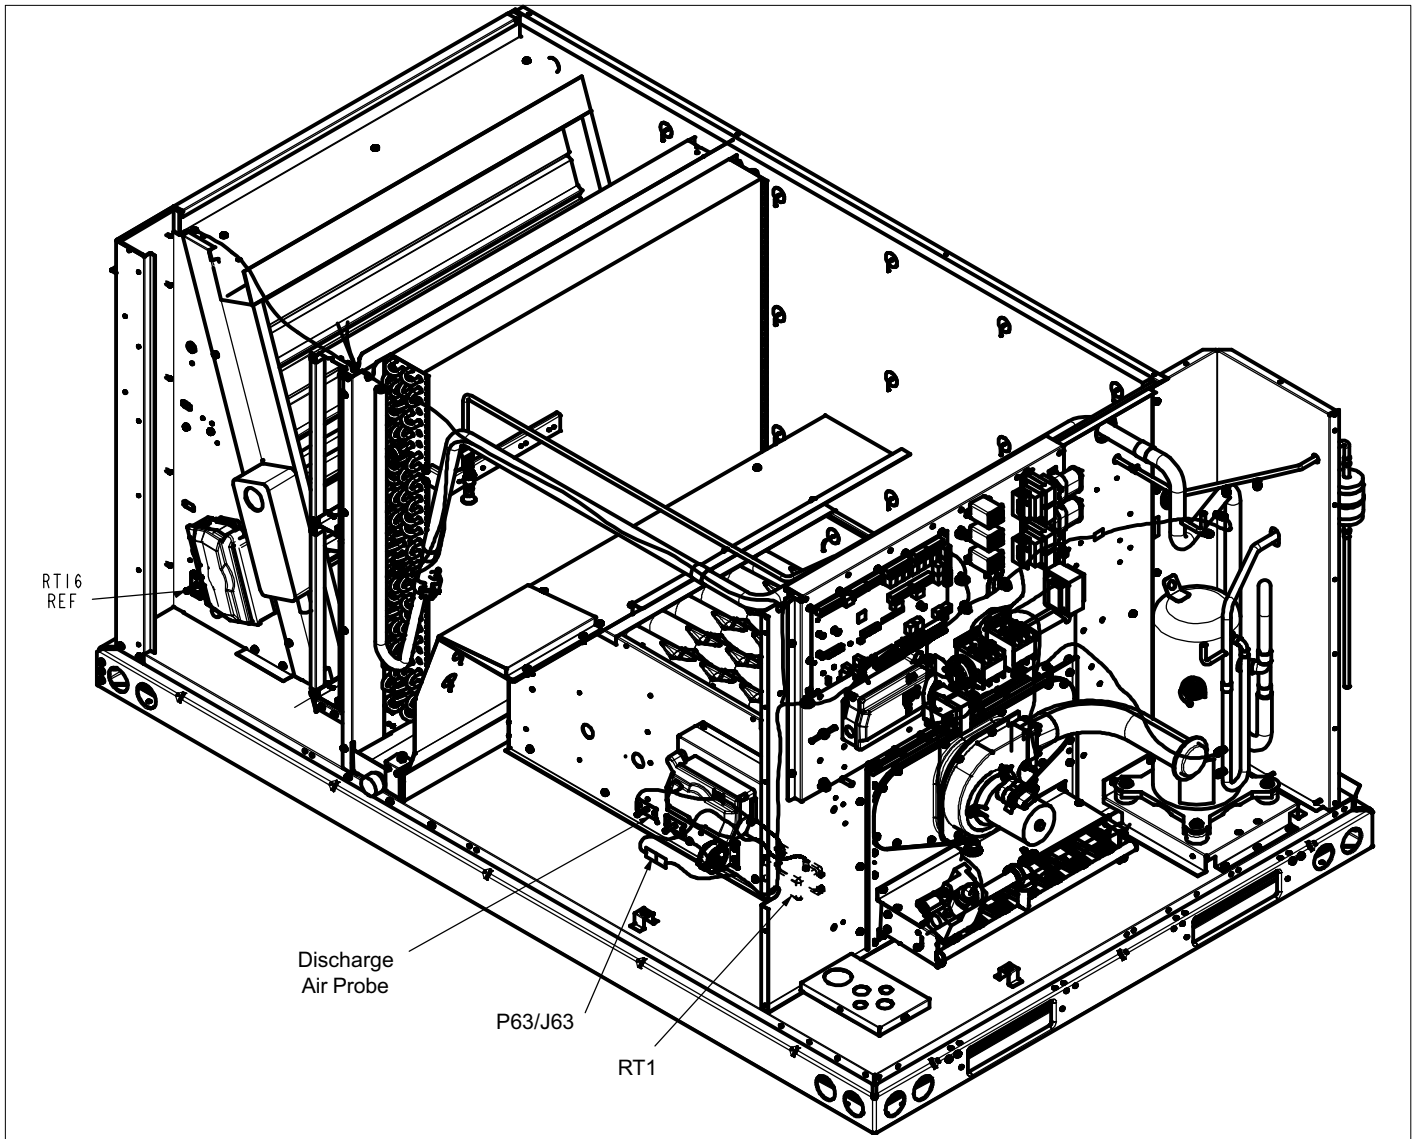
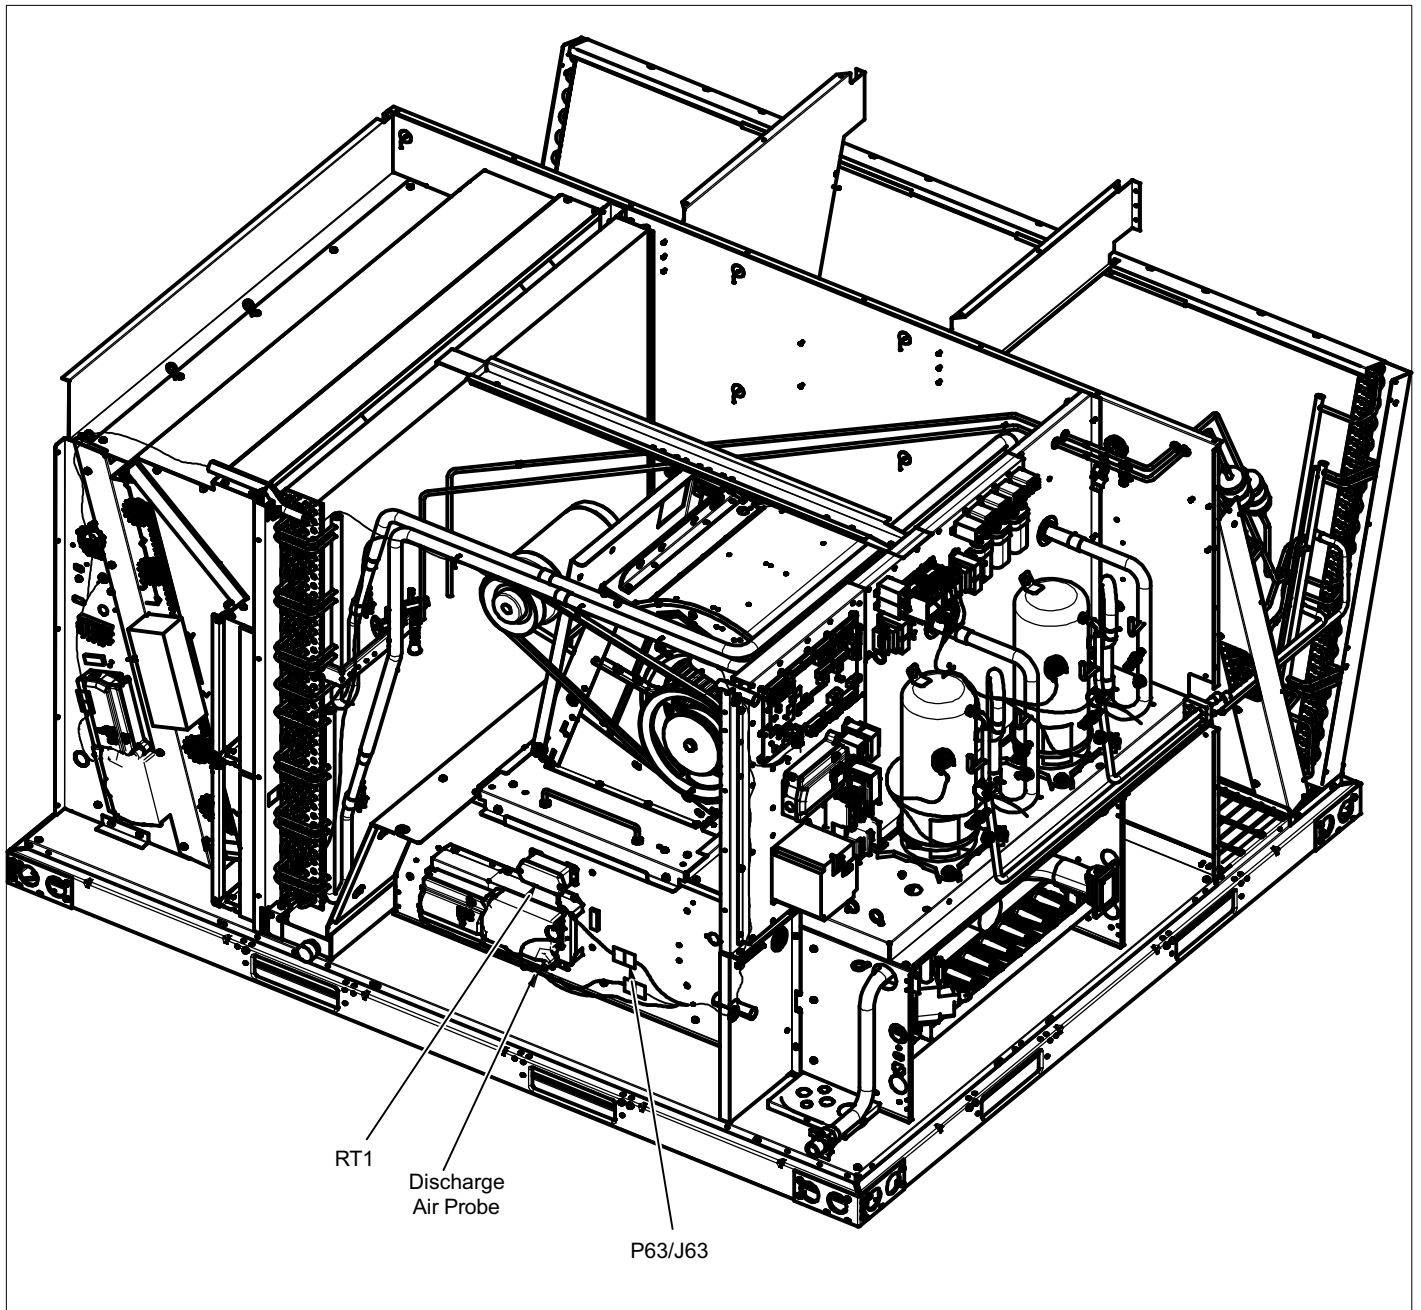

Figure 7. Routing J63 RT1 Harness (036,060 Units)
Figure 8. Routing J63 RT1 Harness (120,240 Units)
4. Route harnesses coming from DDC Control sub-assembly J63 down to lower blower support panel. SCC/SGC 036/060 units: see Figure 7. SCC/SGC 120/240 units: see Figure 8.